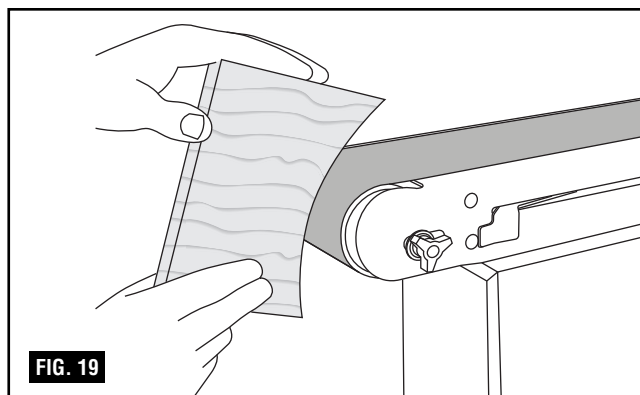

FIG. 19
### Sanding curved edges (Fig. 19 & 20)
1. Always sand inside curves on idler drum as shown in figure 19.